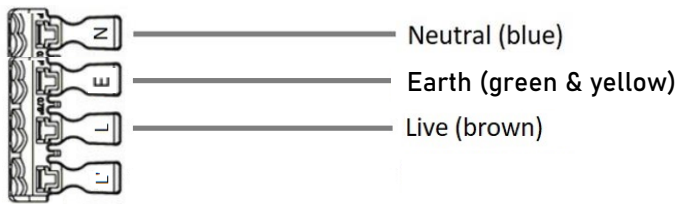

Fig. 3
- Connect the luminaire to the mains supply ensuring the correct polarity is observed (see Fig. 3): L – Live (brown), E – Earth (green/yellow) and N – Neutral (blue). The earth terminal is non-functional and only provided for convenience. Two cables can be inserted into the push-fit terminal block in order to achieve loop-in/loop-out